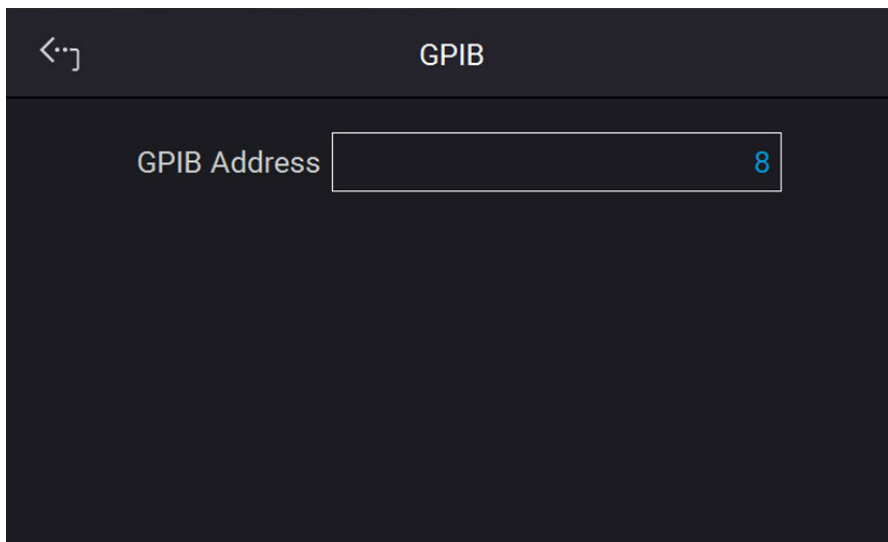

Figure 3-66
1. On the “Interface” page, select GPIB to enter the power supplies GPIB Address as shown in Figure 3-66.